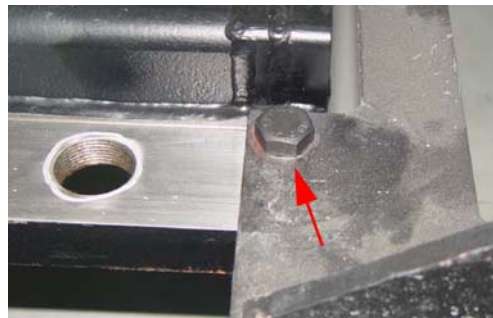

Figure 1-8 Gantry Dolly Bolts
- 6.) Using a 14mm hex socket, remove the dollies from the gantry by removing the three dolly bolts found at both ends of the gantry (Figure 1-8).